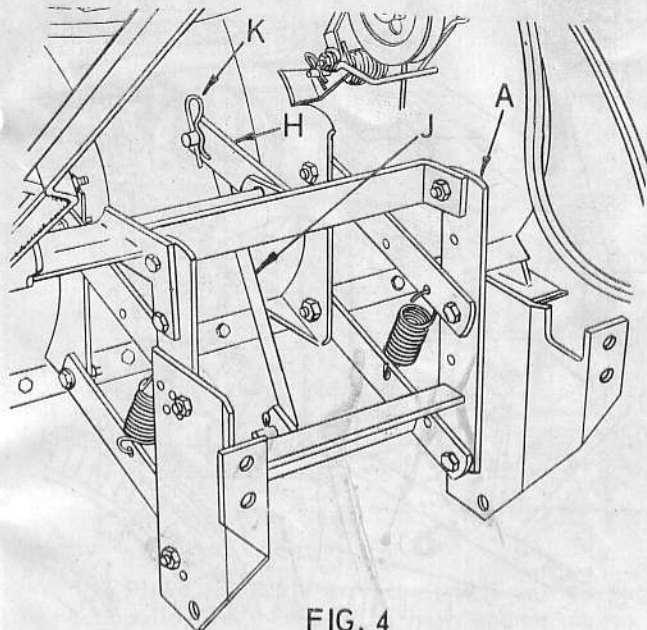

FIG. 4
6. Refer to Fig. 4. Assemble pivot frame weldment (H), to hanger weldment (A), with (3) $3/8 \times 1-1/4$ hex bolts and gripco nuts as shown. NOTE: Heads of bolts to outside. Tighten bolts securely. Bolts and nuts will be found in plastic bag.
7. Assemble lift link (J), to hole in arm of pivot frame weldment (H), as shown and secure with retainer spring (K), found in plastic bag.